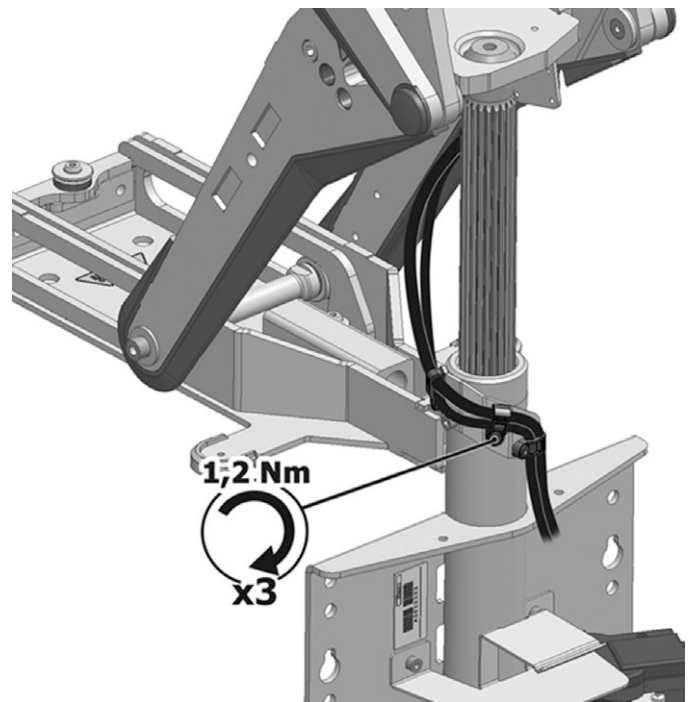

Figure 148. The cable is mounted with three cable brackets on the pillar, each mounted with a screw.
12. The cable brackets are mounted with one screw each. See fig. 148. Use a Torque wrench to tighten the screws. **Tightening torque 1.2 Nm / 0.9 Ft/lbs.**